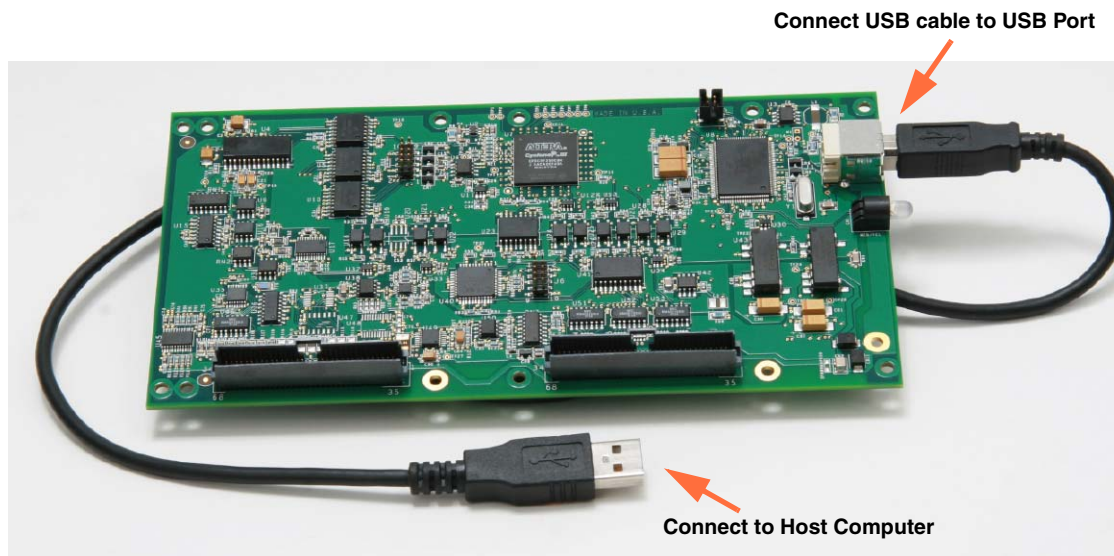

Figure 3: Attaching the Module to the Host Computer
2. Attach one end of the USB cable to the USB port on the module, as shown in Figure 3.